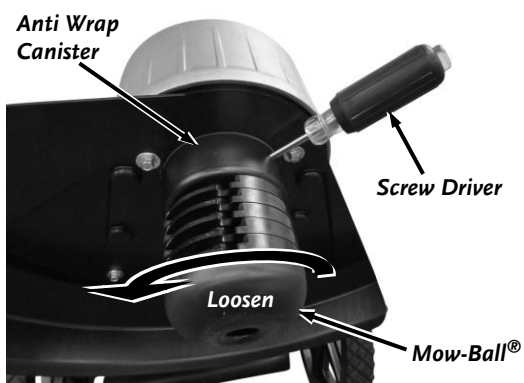

Figure 18
1. Align the hole in the Anti Wrap Canister with the hole in the internal housing at the location shown (**Figure 18**).